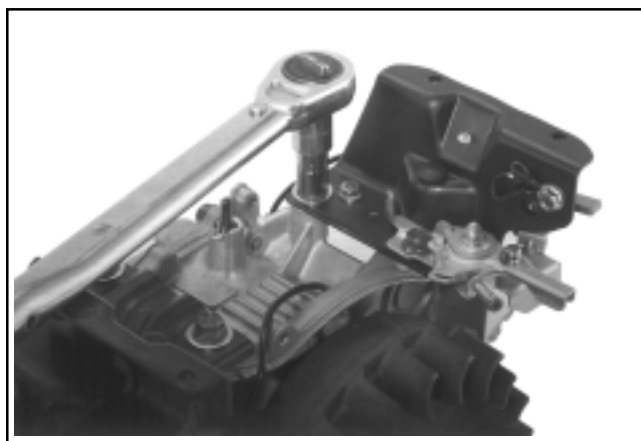

Figure 11-83. CS4, CS6. Mounting Right Fuel Tank Support.
2. Assemble the right fuel tank support and attached electrical components\* to the crankcase bosses. Mount the throttle control bracket off the flywheel side screw as shown in Figures 11-83 and 11-84. Install a flat washer under the head of screw on PTO side only. Torque screws to:
3. Check that the ground leads are secured at the bracket locations, as shown in Figures 11-83 through 11-85.